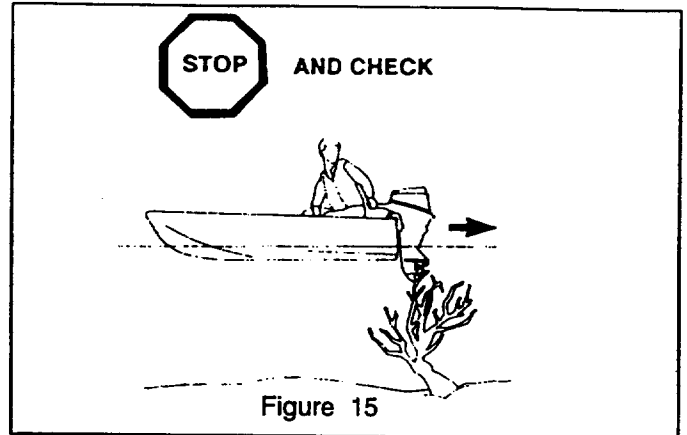

Figure 15
- Avoid striking underwater objects especially in "Reverse", since both the motor and the transom may be damaged (Figure 15).